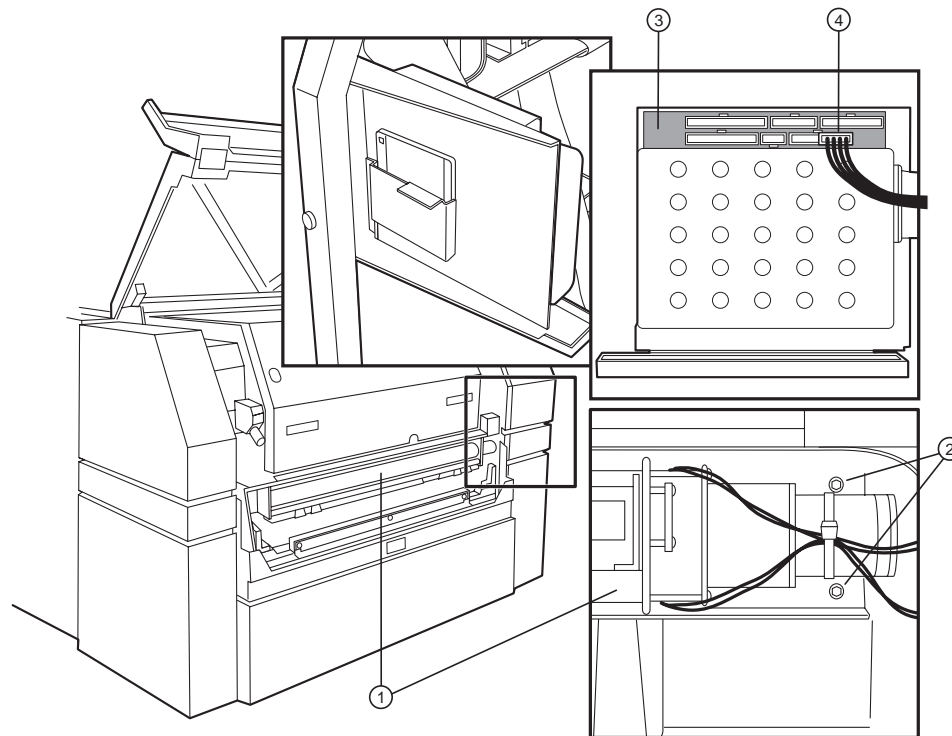

Figure 4-14 Cutter assembly and SDM board.
4. Remove the switch/sensor connector (J4) from the take-up SDM board. Refer to Figure 4-14.
6. Remove the four (4) 3/16" hex screws, two (2) on the left and two (2) on the right, securing the cutter assembly to the drum. Refer to Figure 4-14.